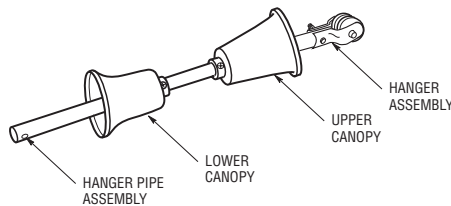

Figure 1
1. Put the upper canopy and lower canopy on the hanger pipe assembly, facing in the proper direction. (See Figure 1.)